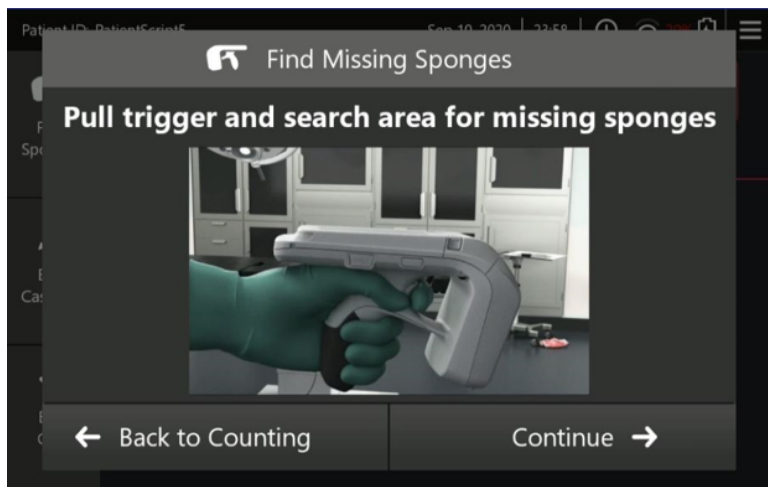

Figure 25 – Searching for Missing Sponges – Pull Trigger
5. Pull the reader trigger and search the suspected area for the missing sponge(s) (Figure 25).